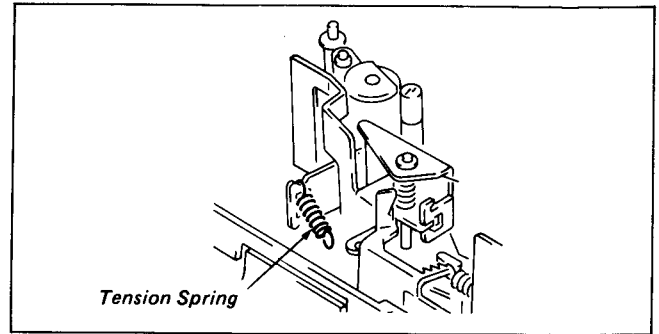

Fig. 8-56.
- 4) Disengage the pinch press arm side (round hook side) of the tension spring hooked on the pinch press arm assembly. (See Fig. 8-56.)